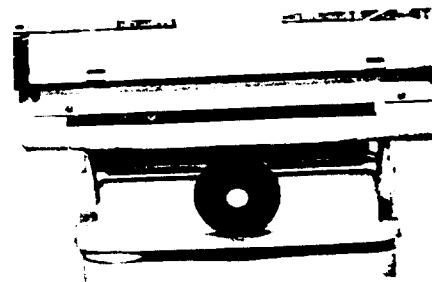

FIGURE 4.11A CHECKING THE BASSINET TILT CONTROL (VHA ONLY)
- a. Turn the Bassinet Tilt Control clockwise (Figure 4.11A) until the Bassinet Foot End is fully raised and comes to a stop.